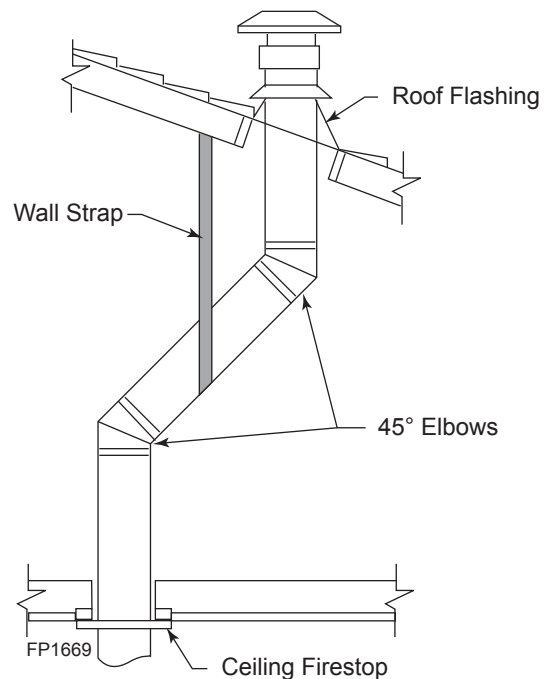

Figure 26 - Offset with Wall Strap and 45° Elbows
1. Determine the route your vertical venting will take. If ceiling joist, roof rafters or other framing will obstruct the venting system, consider an offset. Refer to Figure 26 to avoid cutting load bearing members.